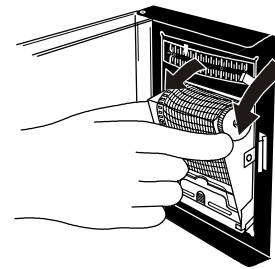
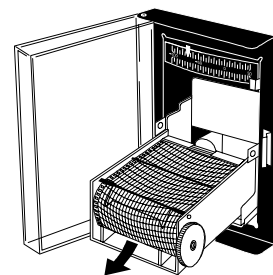

Fig. 1
Fig. 2
This unit is provided a nickel-metal-hydride battery for the power failure warning device. The battery is located in the electrical box inside the cover on the lower left side. (Fig. 1)
2. As shown in the Fig. 2, remove 6 screws fixing the side panel with a screw driver and remove the side cover.
3. Remove 4 screws fixing the electrical box panel with a screw driver. (Fig. 2)
2. Pull the cartridge out of the mounted position as shown in Fig. 1 and Fig. 2.
1. Slightly raise the end of the pen lifter and remove from the pen lifter stopper. Then rotate clockwise as shown in Fig. 1.
3. Press both sides of the pen arm as indicated by the arrows to open the head clamp at A and B. (See to Fig. 2 illustration 1)
4. Position the ink pen so that the guide pins fit into the guide holes on the pen arm. (See to Fig. 2 illustration 2)
5. Press the two sides of the head clamp as indicated by the arrows to secure the ink pen. (See to Fig. 2 illustration 3) From the side view, the cartridge should fit perfectly on the arm. Confirm that the pen arm is attached to both sides of the ink pen.